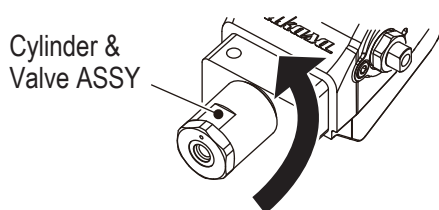

Fig. 8
- i. Remove the cylinder & valve assembly from the pump head. (Fig.8)